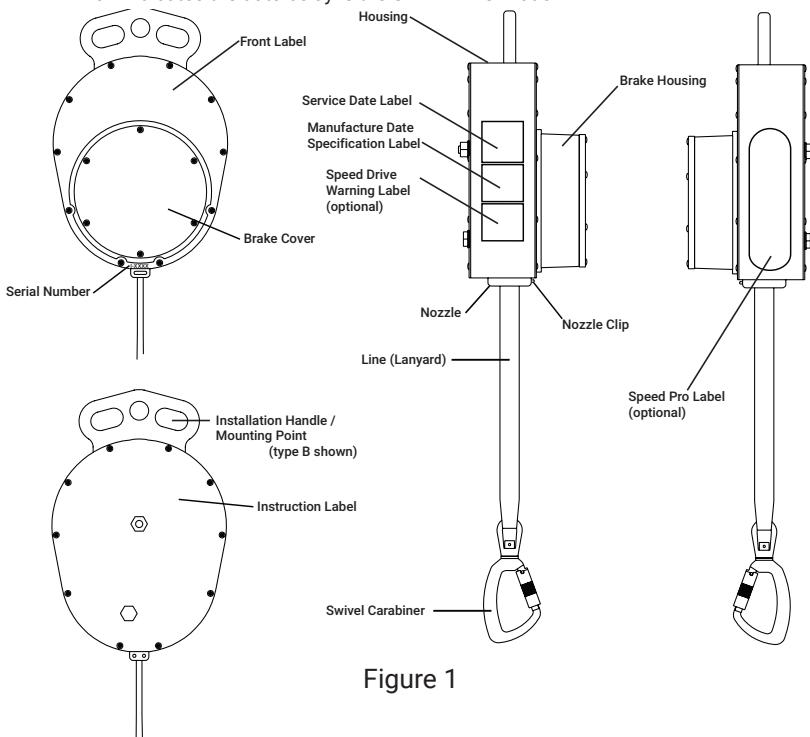

Figure 1
- Auto belay serial number (See to Figure 1 for location).
4.2 PERFECT DESCENT AUTO BELAY HOUSING ELEMENTS (See Figure 1)
4.3 PERFECT DESCENT AUTO BELAY LABELS AND MARKINGS (See Figure 1,4 and 5)
- Confirm that all labels are affixed to the Perfect Descent Auto Belay and are legible (See Figure 1, 4 and 5)
- Check the Date of Manufacture and Service Date Labels for the "Next Recertification Due" date (see figures 1 and 5). Make a note of the next recertification due date on your calendar. If the date shown has passed or the label is missing or illegible, contact your Perfect Descent reseller.
Mounting height (maximum extension) is measured from the center hole in the installation handle to the connection point (see figure 1). Perfect Descent Auto Belays are available in three different Lanyard lengths.